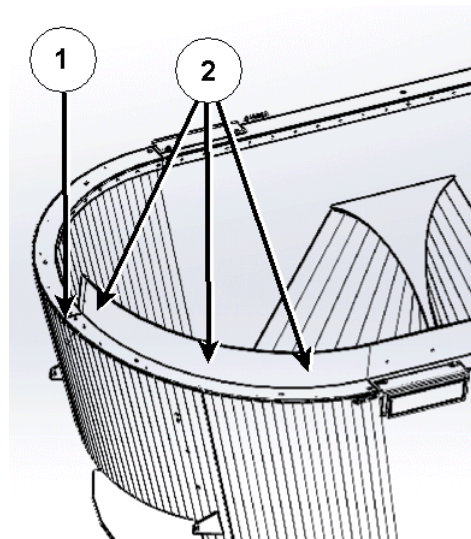

Figure 6: Cable routing 225066C2
- a. Attach the cable(s) to the top of the tub rim (2), see *Figure 6*.
7. Route the cable(s) alongside the hydraulic hoses for the door cylinder (1) and secure with cable ties, see *Figure 6*.